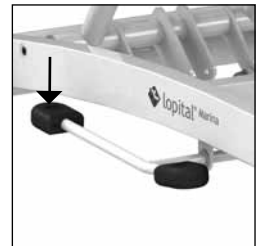

Figure 7 Moving upwards.
- The stretcher is moved upwards by depressing the long part of the foot pedal slowly and evenly (See figure 7).